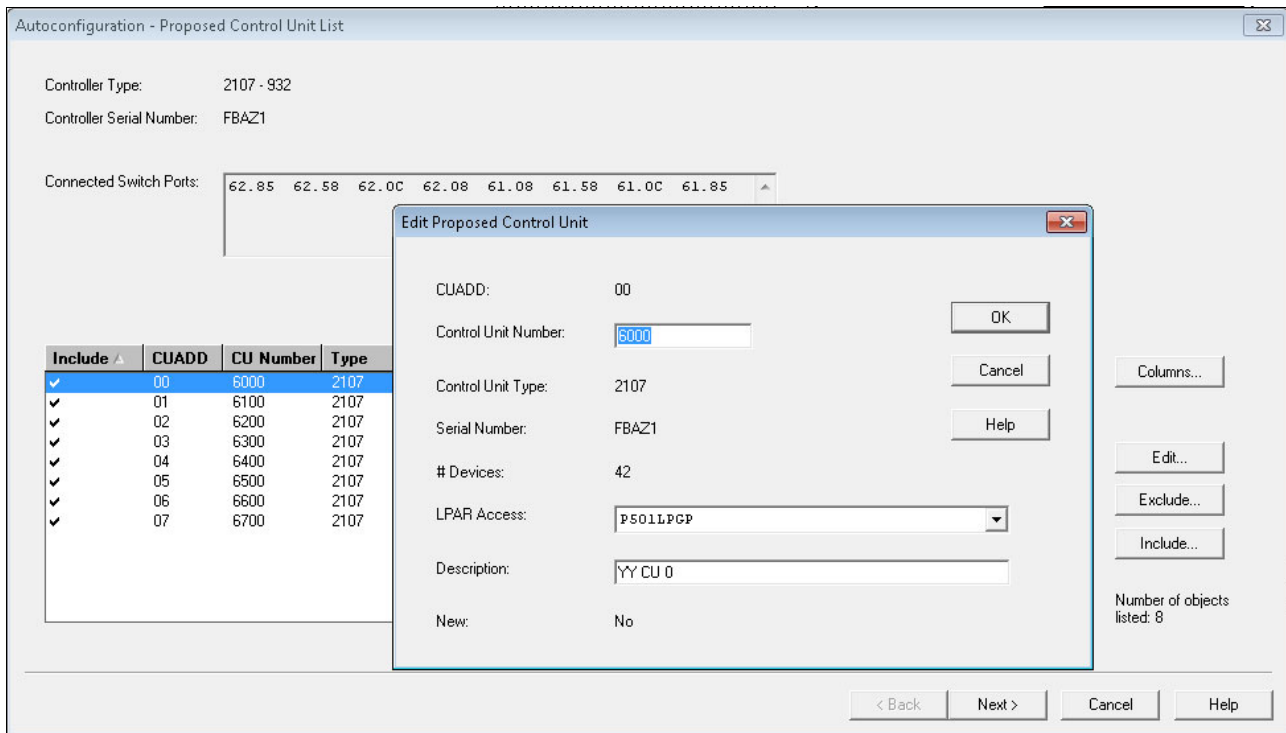

Figure 4-55 HCM - Autoconfiguration: edit proposed control unit list
2. If you want to edit the proposed control units, highlight the control unit entry and click **Edit**. You can change the Control Unit Number, LPAR Access, and Description. In the example, keep the discovered definitions unchanged (Figure 4-55).